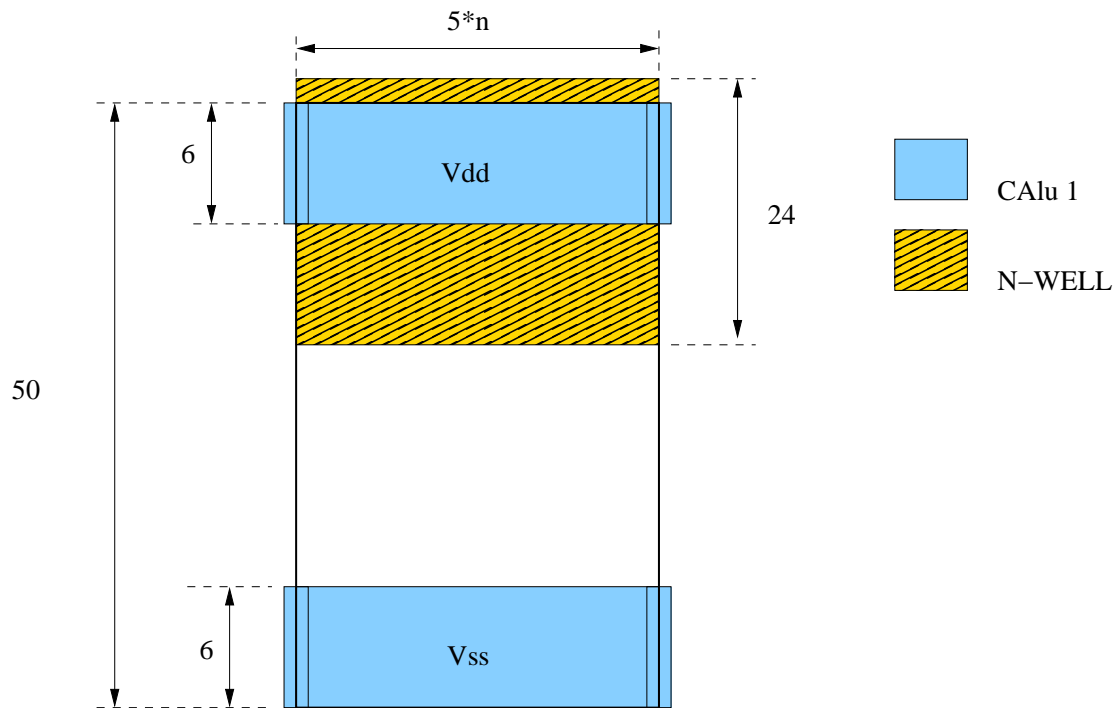

Figure 4: a cell model of the sxlib library
- draw the cell under **GRAAL** by respecting the gauge specified on the figure 4.
- draw the cell under **GRAAL** by respecting the gauge specified on the figure 4. You will use for that the instantiated function of **GRAAL** . The cell with instantiate is of course the inverter, which you will connect (will routing) manually.